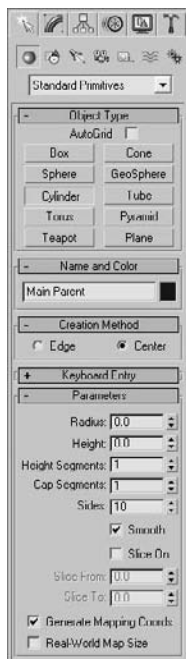

Figure 2.11
1. In the Command panel, activate the Create panel (as shown in Figure 2.11) by clicking on the Create tab (  ) The Create panel is usually enabled by default. Click the Geometry button (  ) to display the Geometry Object Types; it is usually enabled by default. You will see a number of ways to create various objects. You will begin most, if not all, of your Max models in this panel.
2. With Standard Primitives selected in the Create panel's pull-down menu, as shown in Figure 2.11, click the Create Cylinder button. The Cylinder button will turn orange, and your cursor will turn from the default arrow to a cross.